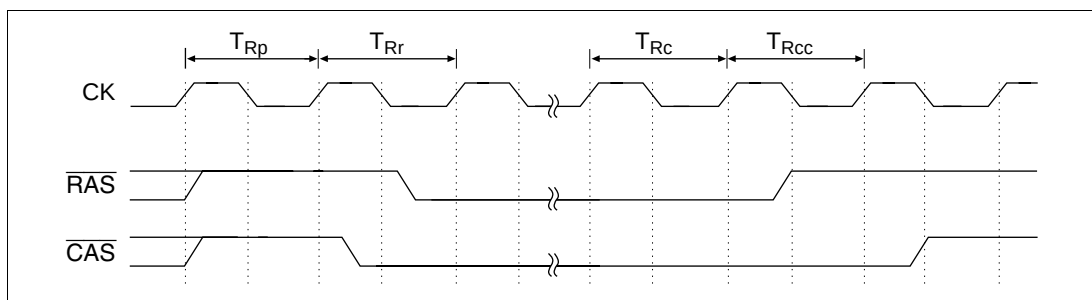

**Figure 8.31 Output Timing for Self-Refresh Signal**
**Self-Refresh Mode:** Some DRAMs have a self-refresh mode (battery back-up mode). This is a type of a standby mode in which the refresh timing and refresh addresses are generated inside the DRAM chip. When the RFSHE and RMODE bits in RCR are both set to 1, the DRAM will enter self-refresh mode when the  $\overline{\text{CAS}}$  and  $\overline{\text{RAS}}$  signals are output as shown in figure 8.31. See sections 20.1.3 (3) and 20.2.3 (3), Bus Timing, for details. DRAM self-refresh mode is cleared when the RMODE bit in RCR is cleared to 0 (figure 8.31). The RFSHE bit should be left at 1 when this is done. Some DRAM vendors recommend that after exiting self-refresh mode, all row addresses should be refreshed again. This can be done using the BSC's CBR refresh function to set all row addresses for refresh in software.